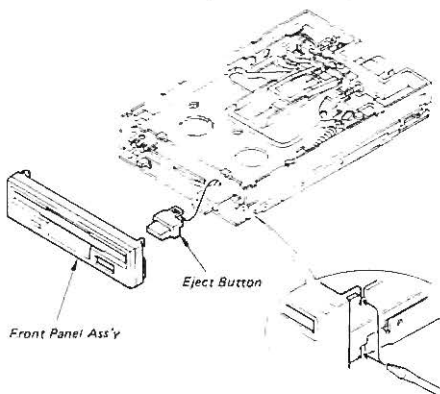

Fig. 4-2 Front Panel Ass'y Replacement
- b. Push slightly the plastic hinges located on each of right and left sides with (-) shaped screw driver through the square hole of upper cover, and pull it slowly toward you. (Refer to Fig. 4-2)
- a. Hang the Eject Button to the hook of slide plate as shown Fig. 4-2.